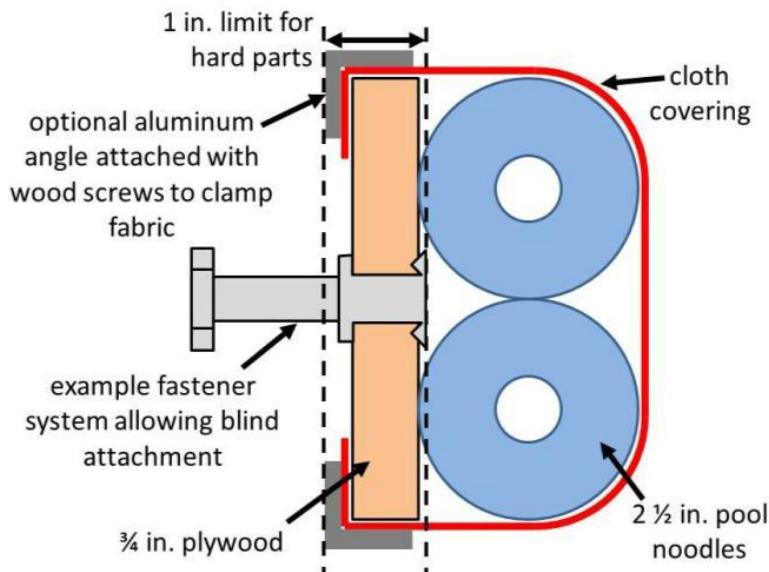
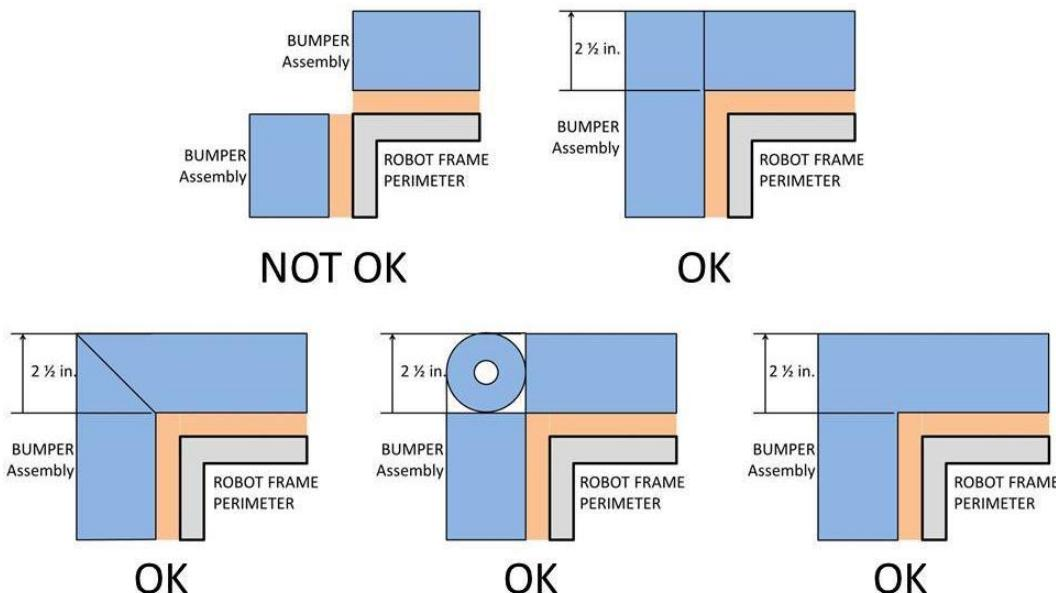

Figure 10-6 BUMPER Vertical Cross Section
Figure 10-7 Soft Parts of BUMPER Corners
**R31.** BUMPERS must be constructed as follows (see Figure 10-6):
- C. use a stacked pair of approximately 2½ in. (nominal) round, petal, or hex “pool noodles” (solid or hollow) as the BUMPER cushion material (see Figure 10-6). All pool noodles used in a BUMPER set (e.g. Red set of BUMPERS) may not be deformed and must be the same diameter, cross-section, and density (e.g. all round hollow or all hex solid). Cushion material may extend up to 2½ in. (~63 mm) beyond the end of the plywood (see Figure 10-7). To assist in applying the fabric covering, soft fasteners may be used to attach the pool noodles to the wood backing, so long as the cross section in Figure 10-6 is not significantly altered (e.g. tape compressing the pool noodles).
- D. be covered with a rugged, smooth cloth. (multiple layers of cloth and seams are permitted if needed to accommodate R28, provided the cross section in Figure 10-6 is not significantly altered).
- E. optionally use metal angle, as shown in Figure 10-6 or other fasteners (e.g. staples, screws, etc.) to clamp cloth.
**R32.** Corner joints between BUMPERS must be filled with pool noodle material. Examples of implementation are shown in Figure 10-7.